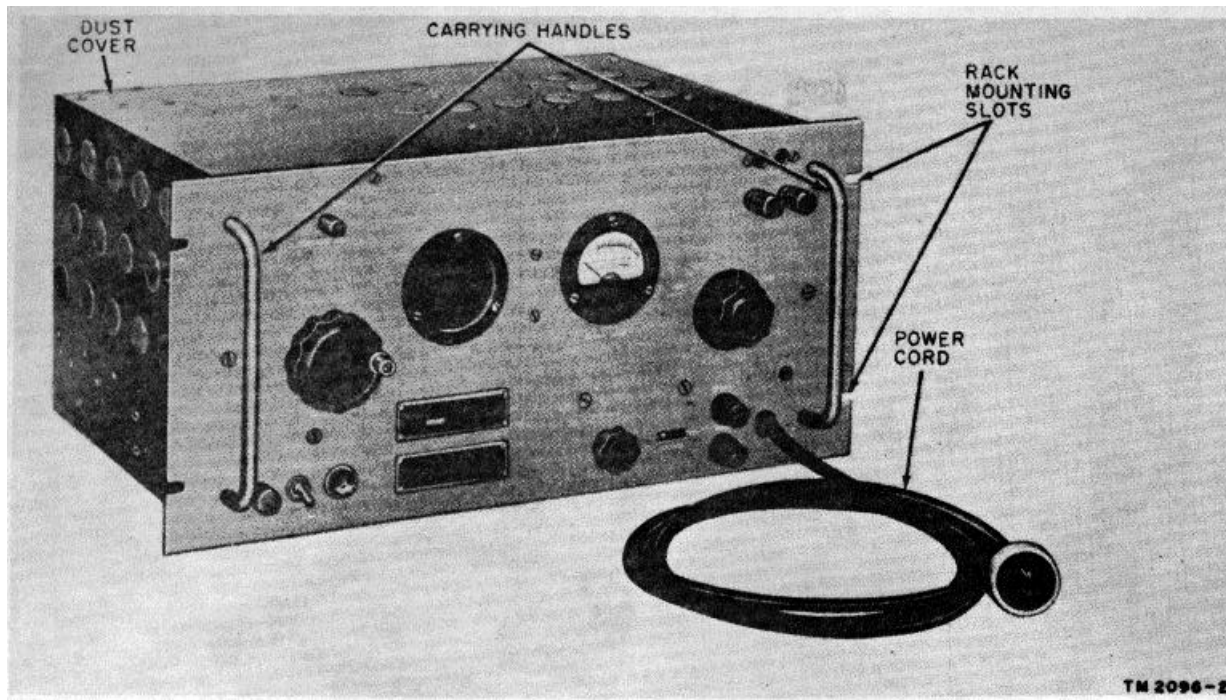

Figure 1-2. Signal Generator SG-15(*)/PCM.
a. Signal Generator SG-15()/PCM.* Signal Generator SG-15(*)/PCM (fig. 1-2) is a portable, heterodyne-type, vacuum-tube oscillator which provides a source of testing power for transmission measurements of carrier equipment and wire and cable lines. The signal generator is capable of supplying an output of -54 through +26 dbm to a 600-ohm load over a frequency range of 200 cycles through 35 kilocycles. It operates from a power source of 115- or 230-volt, 50- to 60-cycle a-c (alternating current) and has an output impedance of 600 ohms balanced. Signal Generator SG-15(*)/PCM also may be used as a source of testing power whenever there is a requirement for an audio oscillator or a signal generator in the same frequency range.